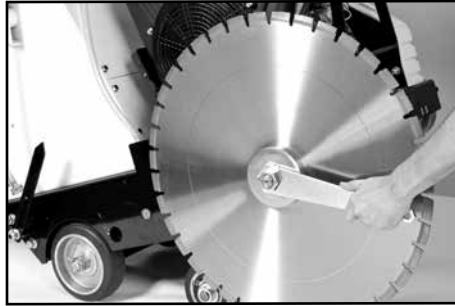

Fig. 12 Tighten Arbor Bolt
6. Tighten the arbor bolt (Figure 12).